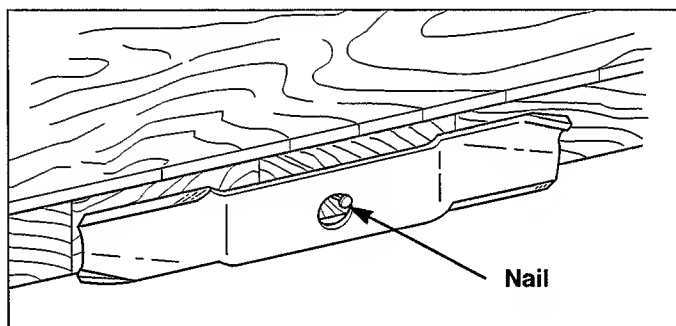

Figure 21. Balancing The Blade
5. Balance the blade as shown in Figure 21. Center the blade's hole on a nail lubricated with a drop of oil. A balanced blade will remain level.